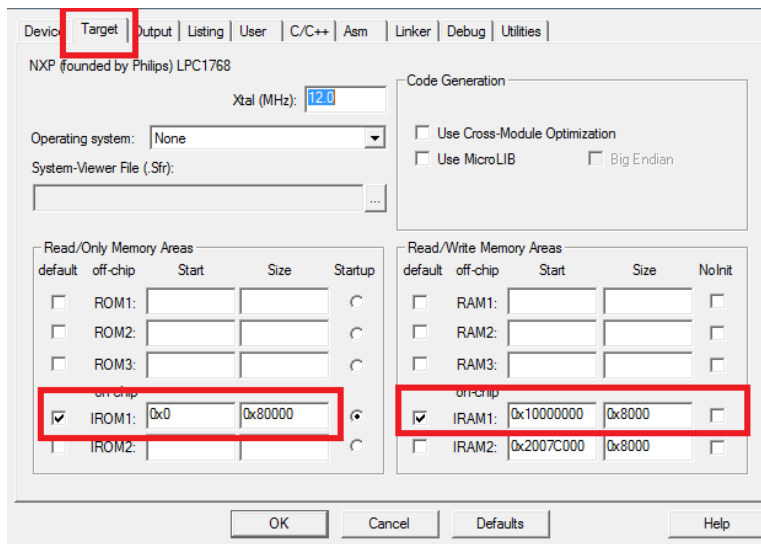

Figure 1.3: Keil IDE: Target Default Memory Map Configuration
- the default memory map is used (see Figure 1.3); and